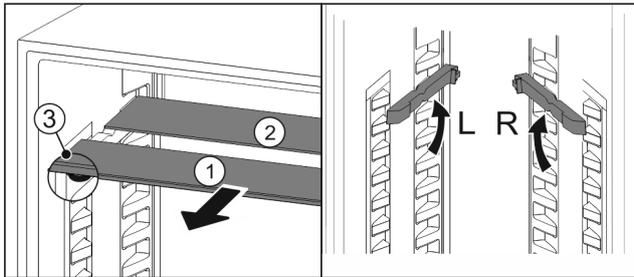

Fig. 87
- ▶ Pull the glass panels out Fig. 87 (1) from the front, one at a time.
- ▶ The glass panel Fig. 87 (1) and trim strip are at the front.
- ▶ The stops Fig. 87 (3) point down.